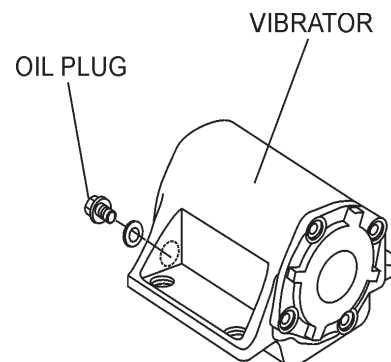

Figure 10. Vibrator Oil Plug
2. Check vibrator oil level by removing the plug (vibrator oil gauge) as shown in Figure 10. The oil level should be up to the oil plug. The vibrator holds 140 cc (approximately 4 oz.). **IMPORTANT**, if oil is required, replace using only SAE10W-30 motor oil.